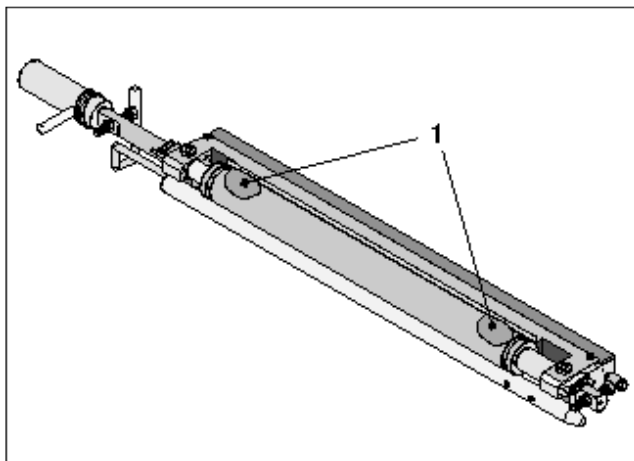

Fig. 16 Inking up the washup roller
2. Partially ink up the washup roller (Fig. 16 /1).